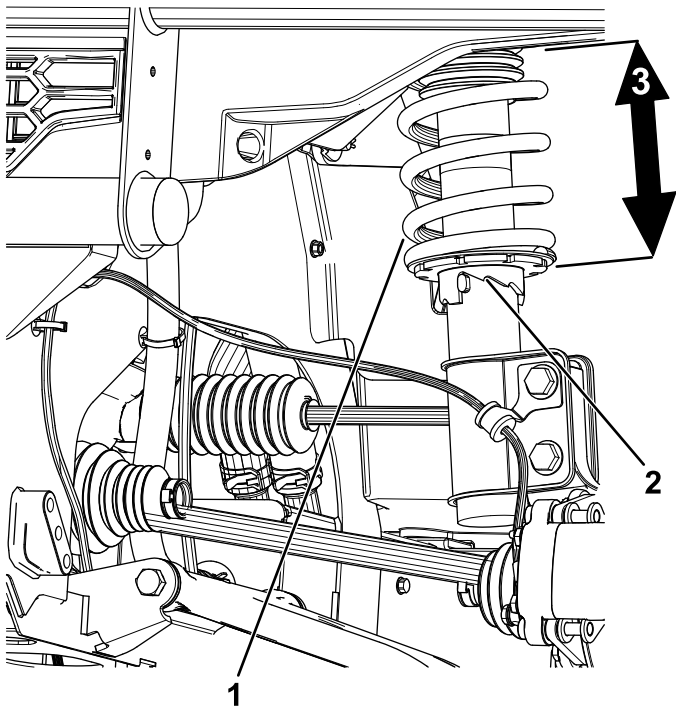

Figure 85
2. If the ground clearance is not correct, use the spring-adjuster wrench to rotate the collar on the shock absorber to align the wheel (Figure 85).